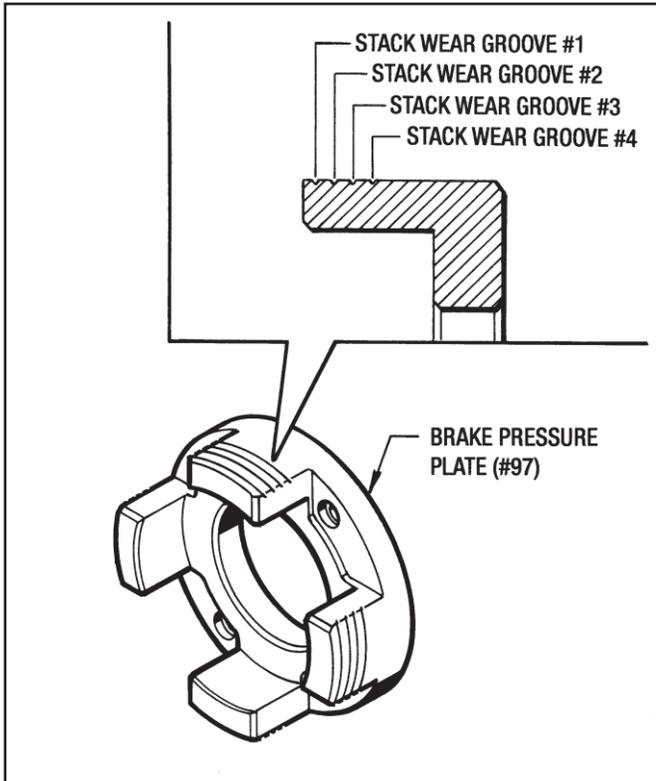

Figure 6.1 - "Stack Wear" Grooves
Four (4) "Stack Wear" Grooves have been machined in the Brake Pressure Plate (#97) Lugs to facilitate this visual check. Depending on which Logic applies to your unit, only (2) of them are used. (See Figure 6.1)